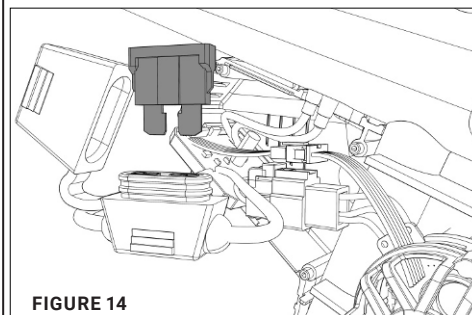

FIGURE 14
7. Remove fuse and inspect [Figure 14];